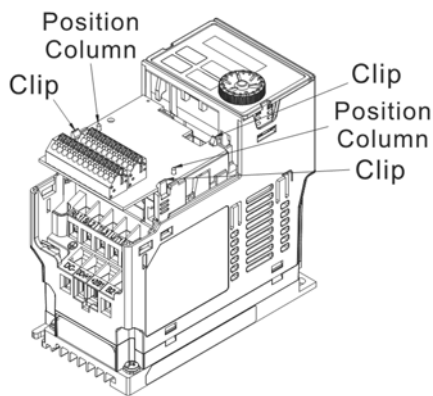

Figure 8-12
4. Assembling the option card: As shown in the figure 8-12, have the terminal block of the option facing up, aim the two holes of the option card to the position column and press downward so that the three clips are engage the option card.